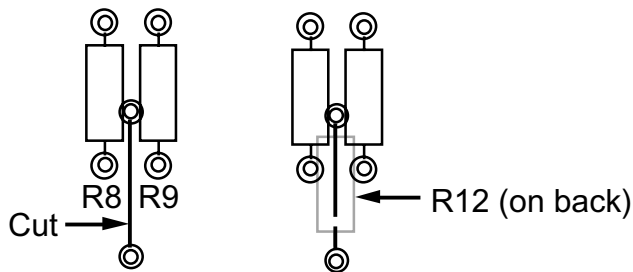

Figure 5
- Locate the trace on the top side of the board that runs directly between resistors R8 and R9 (Figure 5). Cut the trace. On the bottom side of the board, solder an 820-ohm resistor (gray-red-brown) between the two vias. You'll need to pre-trim the resistor's leads since it isn't possible to cut the lead that falls between R8 and R9. (Protects the microcontroller in the event that an RS232 signal is accidentally connected to the VRFDET line via the KIO2's or KPA100's AUX I/O connector. Designated R12 on the Rev. B Control board.)